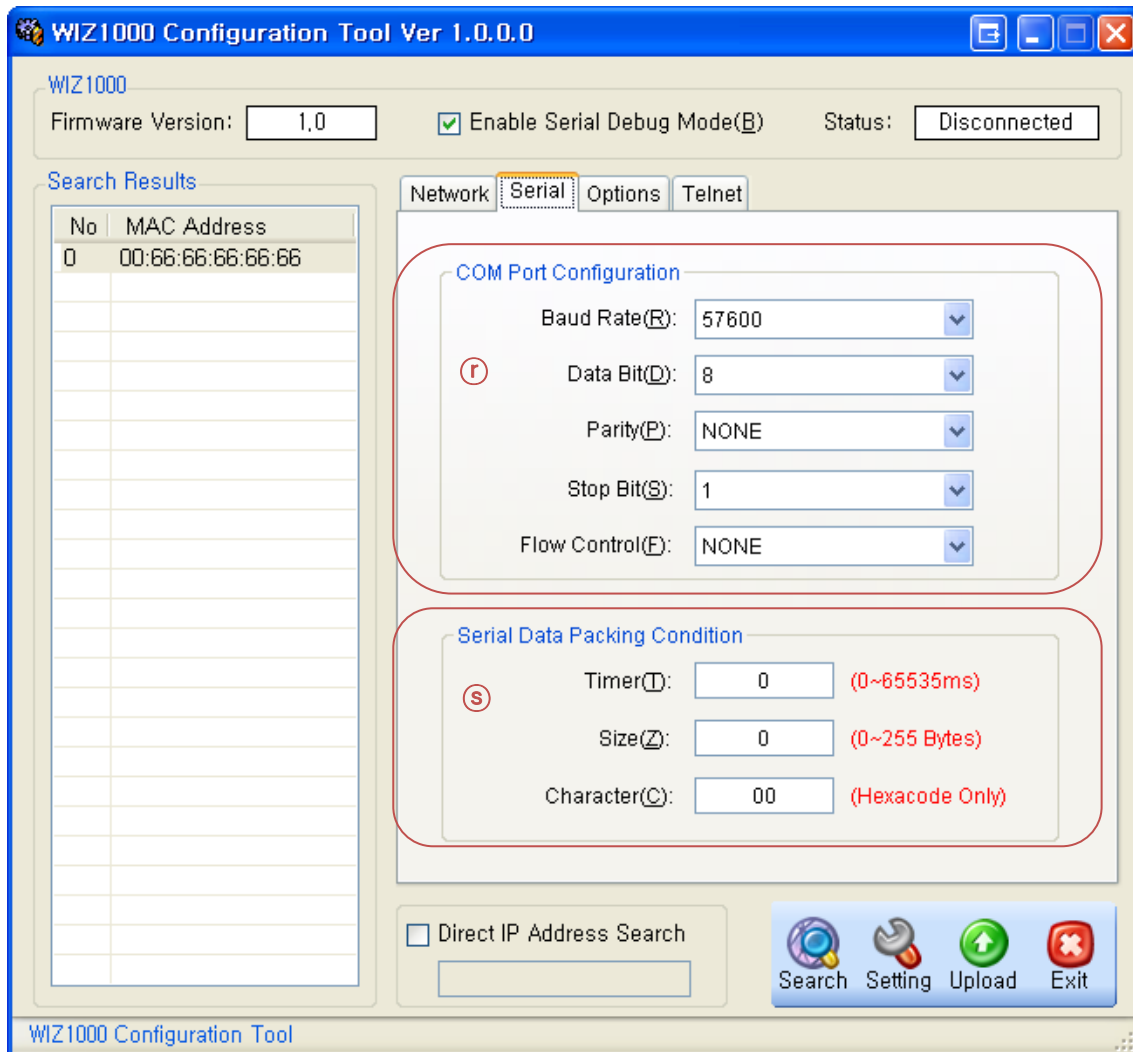

Figure 8. Configuration Tool (Serial Config.)
3. As shown in Figure 8, select Option tab and check 'Enable' combo box of "Password" menu.
④ Telnet Com Port Option